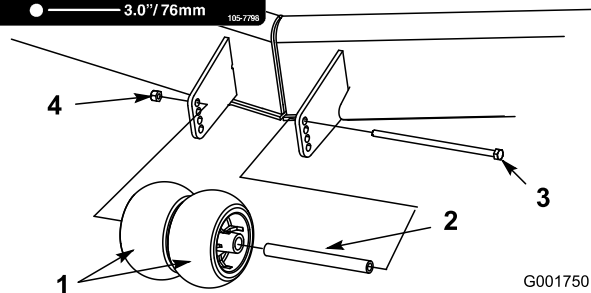

Figure 20
3. After adjusting the height-of-cut, remove the flange nut, bushing, and bolt (Figure 20).
4. Select a hole so that the center rollers are positioned to the nearest corresponding height-of-cut desired (Figure 20).
5. Install the center rollers, bushing, spacer, bolt, and nut (Figure 20).